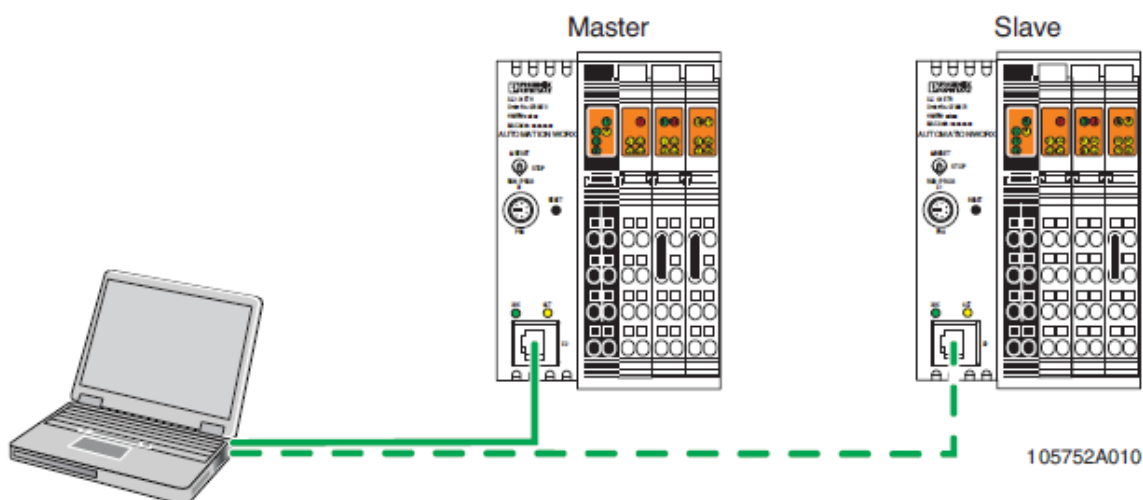

Figure 2-14 Connecting the Inline controllers to a PC
- First connect the Inline controller that has been configured as master to a PC using an Ethernet cable (see Figure 2-14).